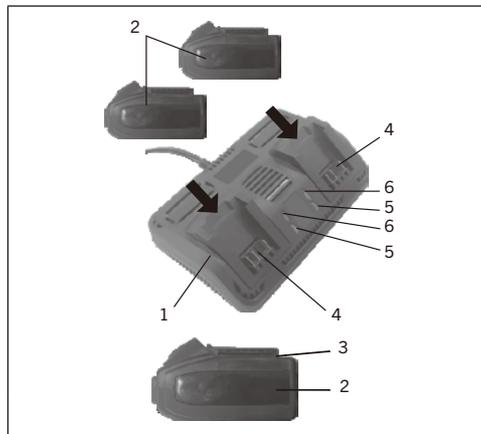

FIG. 1
1. Place the battery charger (1) in a dry location near a 110–120V 60 Hz outlet. (Fig.1).
- NOTE:** a) When the charger is plugged into the wall receptacle and NO battery is on the charger, the green indicator light (5)(Fig.1) will turn ON indicating the charger is "live".
- b) When a discharged battery is installed on the charger, the green indicator light will turn OFF and the red indicator light (6)(Fig.1) will FLASH. The flashing red indicator light indicates the battery is being charged.